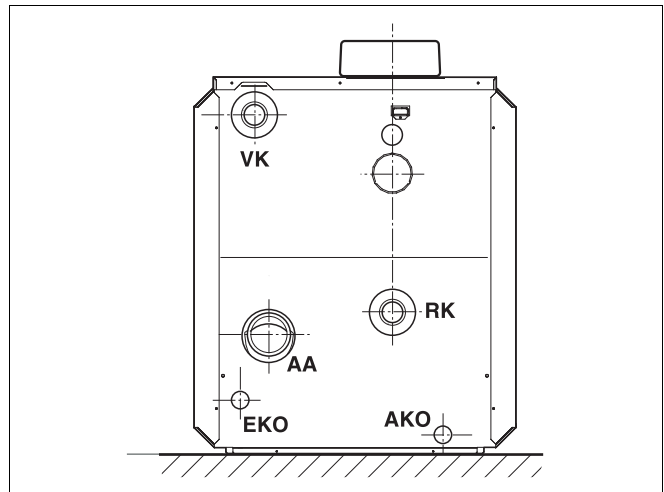
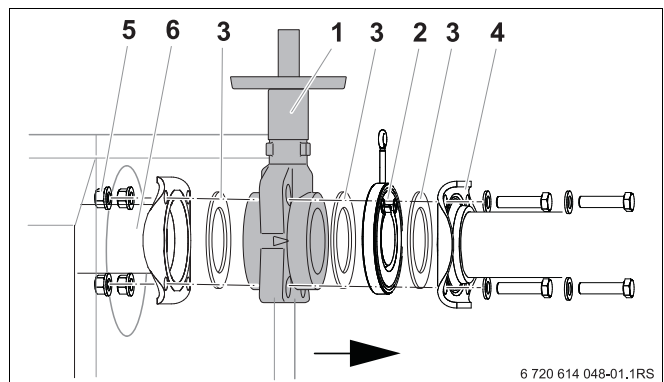

Fig. 4 Logano GB312 boiler connections
Fig. 8 Installing shut-off valve
USER INFORMATION Only make connections in the positions shown in Fig. 4.
- Legend for Fig. 4*
Shut-off valves (Fig. 8, [1]) are not part of the standard delivery and must be ordered separately. One shut-off valve can be connected to each flow and return.
- Place gasket (Fig. 8, [3]) and shut-off valve (Fig. 8, [1]) on the boiler flange.
- Place gasket (Fig. 8, [3]), check valve (Fig. 8, [2]) and gasket (Fig. 8, [3]) on shut-off valve (Fig. 8, [1]).
- Secure flow piece flange (Fig. 8, [4]) on boiler flow flange using four bolts and nuts (Fig. 4, [5]).